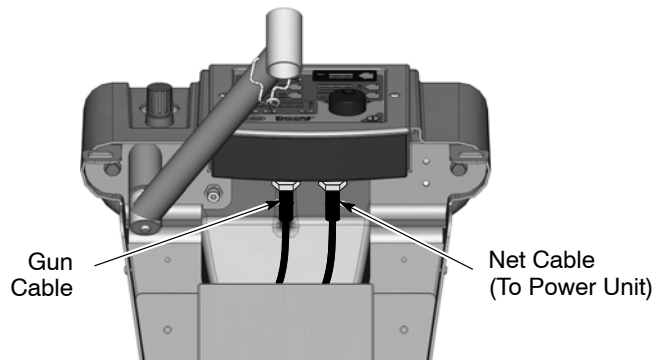

Figure 3-11 Gun Cable Connection to Interface Module – Mobile Systems
1. Mobile System: See Figure 3-11. Feed the spray gun cable into the back of the dolly tower and up through the top front. This will allow you to bundle the cable with the purge and electrode air wash tubing.